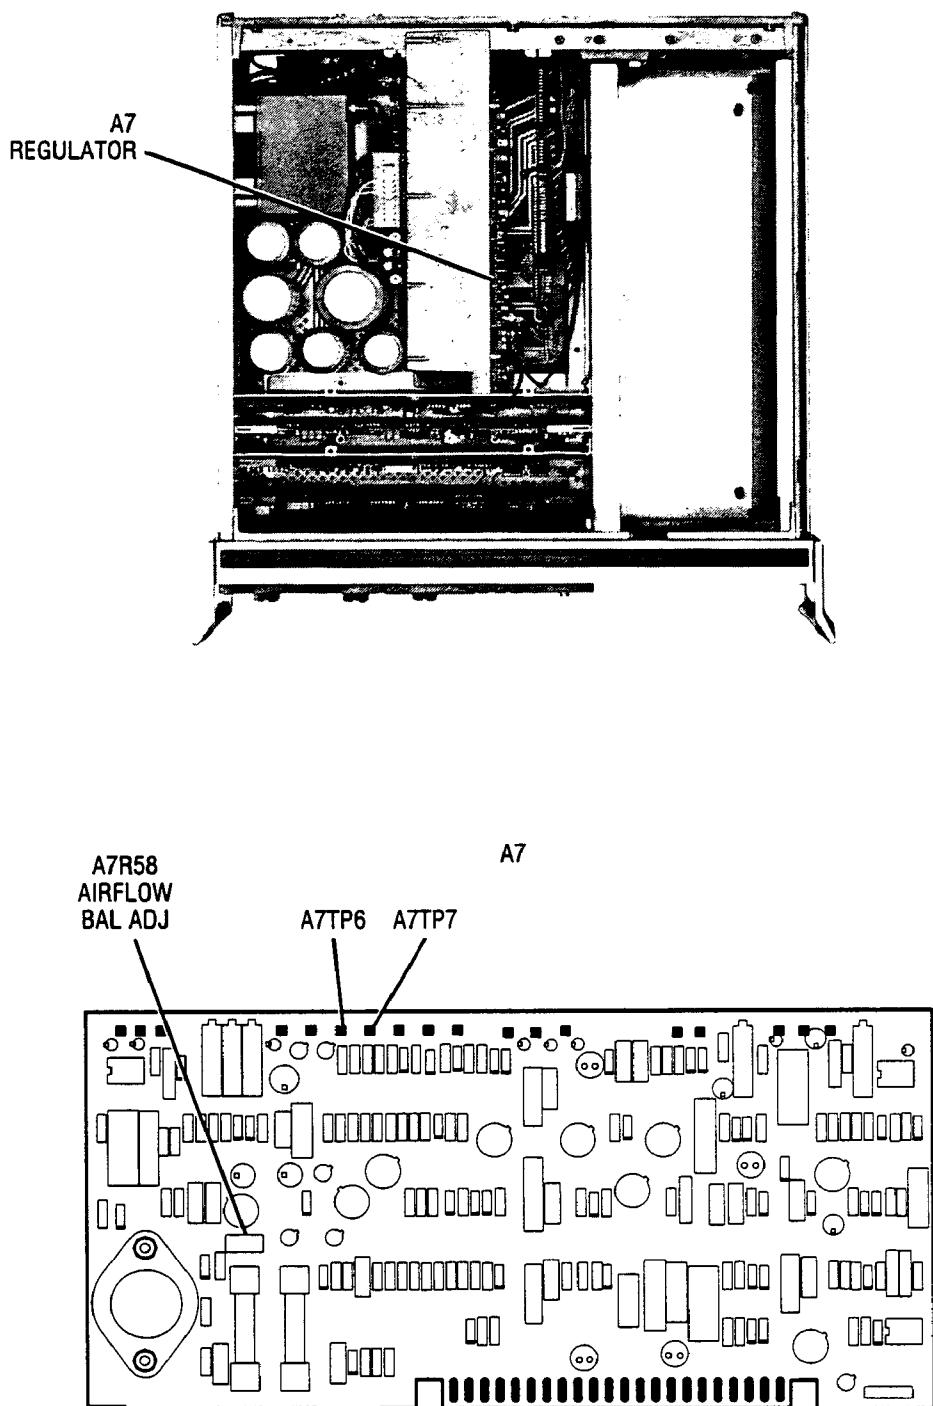

Figure 5-3. Location of AIRFLOW BALANCE Adjustment
4. Short A7TP6 and A7TP7 together. This removes the hysteresis from comparator A7U11. Refer to Figure 5-3 for the location of A7TP6 and A7TP7.
7. Adjust A7R58 AIRFLOW BAL until the LED display oscillates between 1000 00 and 1000 02. Refer to Figure 5-3 for A7R58 adjustment location.